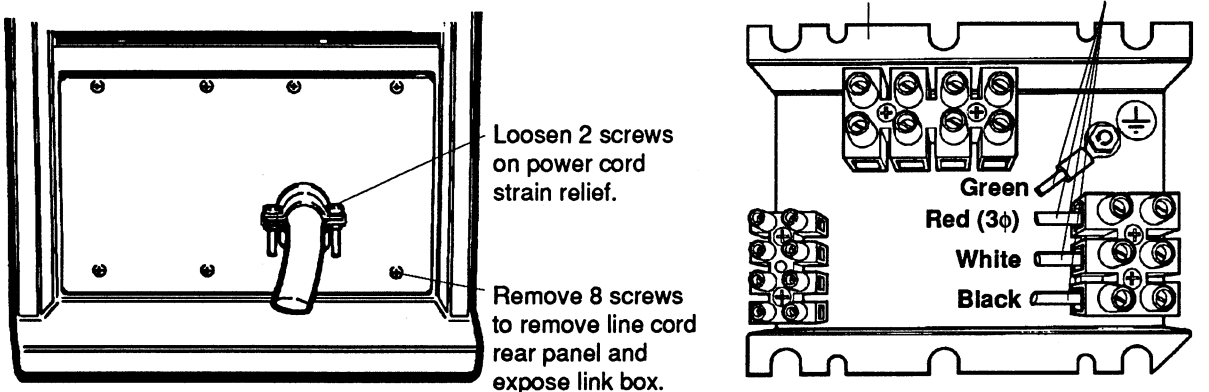

Figure 2-4 Removal of Single-Phase Power Cord from Powermax800 Power Supply
3. Remove power cord from power supply. See Figure 2-4.